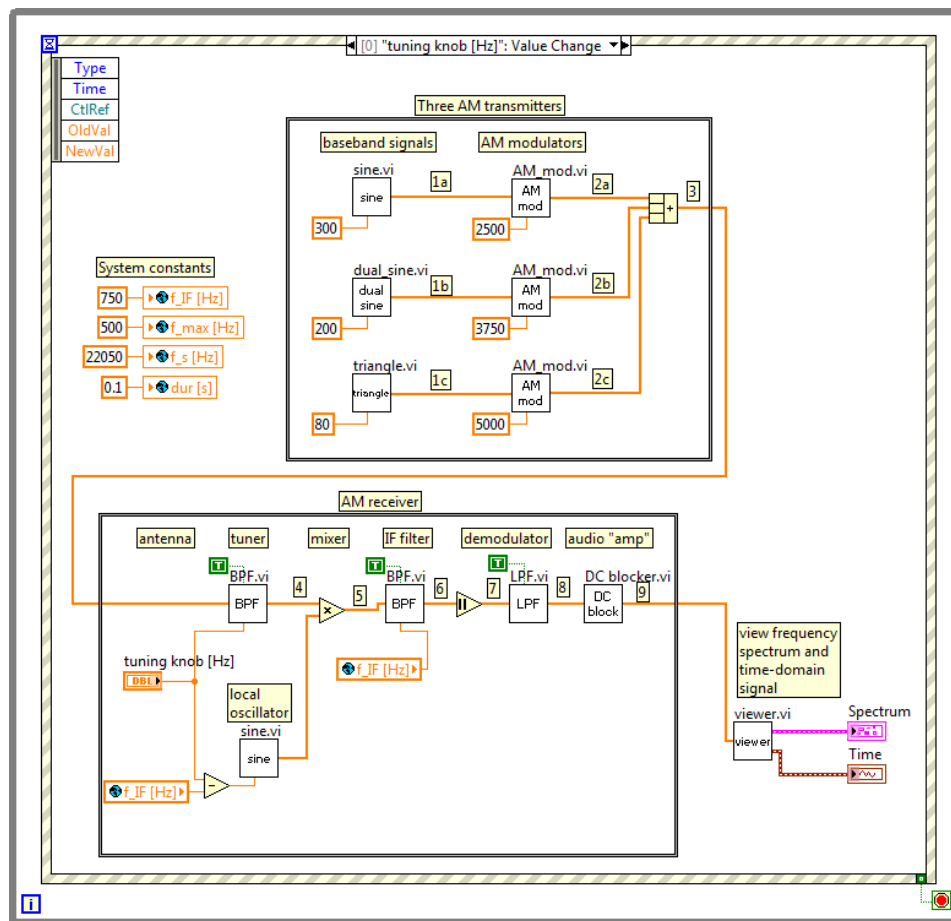

Figure 8.1: Top-level VI block diagram of the AM radio simulator.
- ▶ Figure 8.1 on the next page shows the block diagram of the LabVIEW AM radio simulator that you will construct in this lab project. Compare the section labeled "Three AM transmitters" to Figures 6-58 and 6-64(b) in your text; this section of the LabVIEW VI models three AM transmitters operating at three distinct carrier frequencies. Also compare the section labeled "AM receiver" to Figure 6-63 in your text. The LabVIEW VI directly implements the block diagram of the superheterodyne receiver pictured in your text.
- Place four global variables on your radio simulator VI as in the “System Constants” area of Figure 8.1 on the preceding page. Create constants to document the values of the global variables.
► Adjust the three baseband signal frequencies to match those shown on the block diagram of Figure 8.1 on page 71.
► Adjust the limits on your tuning knob to select among only the carrier frequencies pictured on the diagram of Figure 8.1 on page 71.
- ☐9 Collect a screen shot of your radio simulator front panel at each labeled signal point in Figure 8.1 on page 71, i.e., 1c, 2c, and 3 to 9.